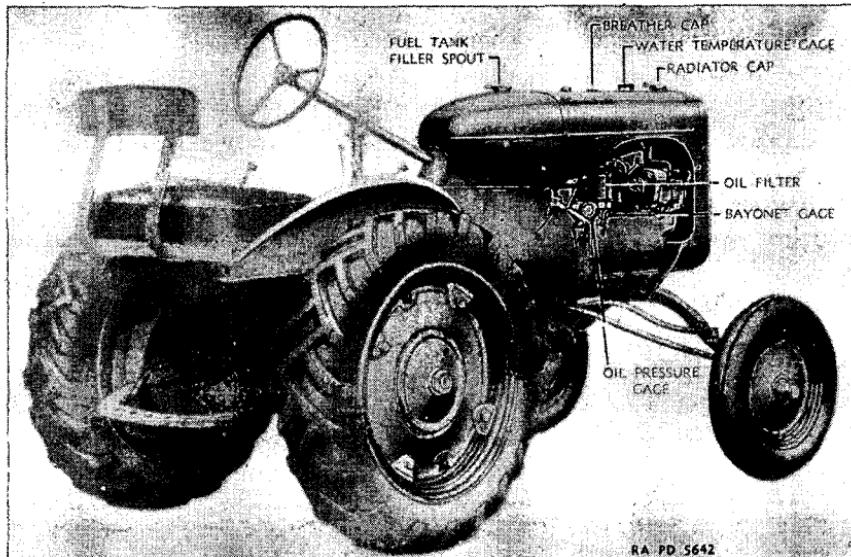

FIGURE 5.—Finding diagram.
j. After the engine is started, close the radiator shutter with the control located on the right side of the radiator shell, and keep it closed until the engine reaches normal operating temperature as indicated on the temperature gage mounted on the engine hood immediately behind the radiator cap (fig. 5). Then open the shutter sufficiently to keep the temperature normal.
b. The crankcase, or engine oil sump, is filled through the breather cap provided on the top of the engine hood (fig. 5). A bayonet gage (fig. 5) located near the oil filter on the right side of the engine is provided to indicate the quantity of oil in the crankcase; the oil level in the oil sump must be maintained to the "Full" mark on this gage. A plug, located in the bottom of the crankcase, is removed when necessary to drain the sump before refilling with fresh oil.
14. Oil filter.—An oil filter is provided in the engine oil pressure circuit for the purpose of removing abrasive particles from the engine oil (fig. 5). The filter element is of the removable type and should be changed as indicated on the lubrication guide.
15. Breather cap.—The breather cap (figs. 5 and 8) provides for ventilation of the engine sump. Should the breather become clogged with dirt, pressure will be created in the crankcase and cause oil leaks
b. The instruments should be referred to frequently to see if the engine is functioning properly. The instruments provided include a water temperature gage located on the hood near the radiator cap and an oil pressure gage mounted near the oil filter (fig. 5).